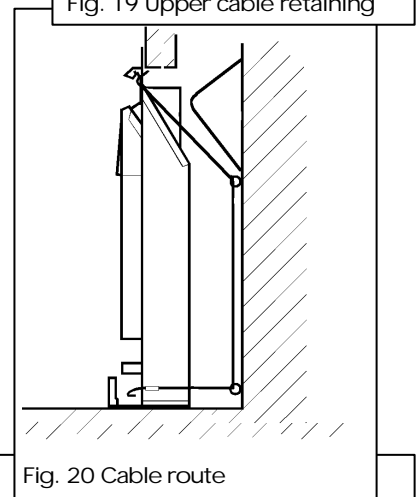

Fig. 20 Cable route
7.2.5 Thread the cables through the upper eyebolts in the rear wall and then through the lower eyebolts. Return the cables through the holes near the bottom of the convection box back panel and through the "V" shaped brackets near the bottom front sides of the convection box (see figure 20).